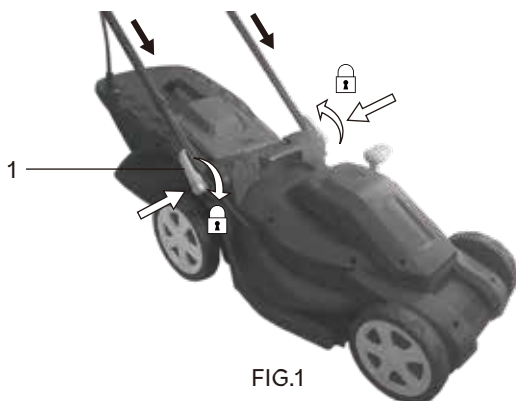

FIG.1
To reduce the risk of disconnection of lawn mower from the extension cord during operating: Make a knot as shown in Fig. 1;
1. Align and pass the mounting hole of the lower handlebar through the bolt of handle support (Fig. 1).
2. Attach the washer to the bolt and secure the lower handlebar by turning the lever (1) up for tightening.